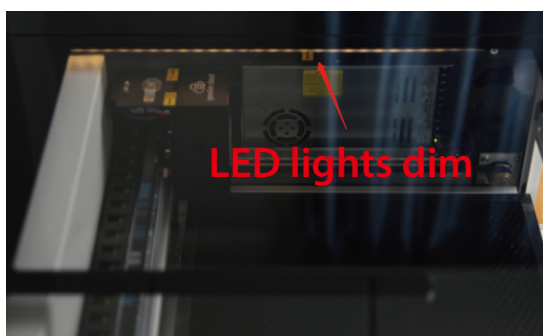
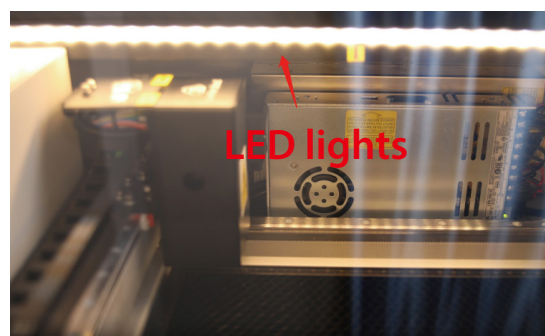

Figure 6
Figure 7
1)Check the door protection works normally or not: When the door is opened, the LED light is dimmed (as shown in Figure 6); When the door is closed, and the LED light is bright, it is normal work. (Figure 7)